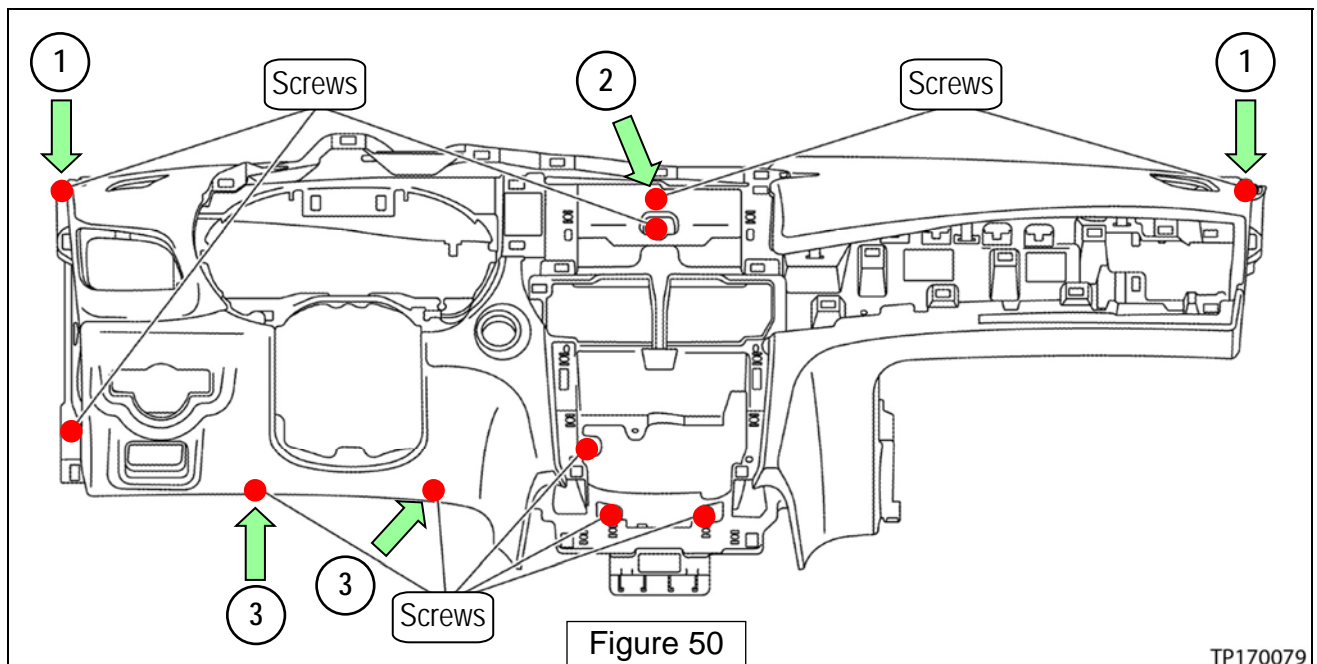

Figure 50
34. Remove all instrument panel T20 TORX® screws (see Figure 50).